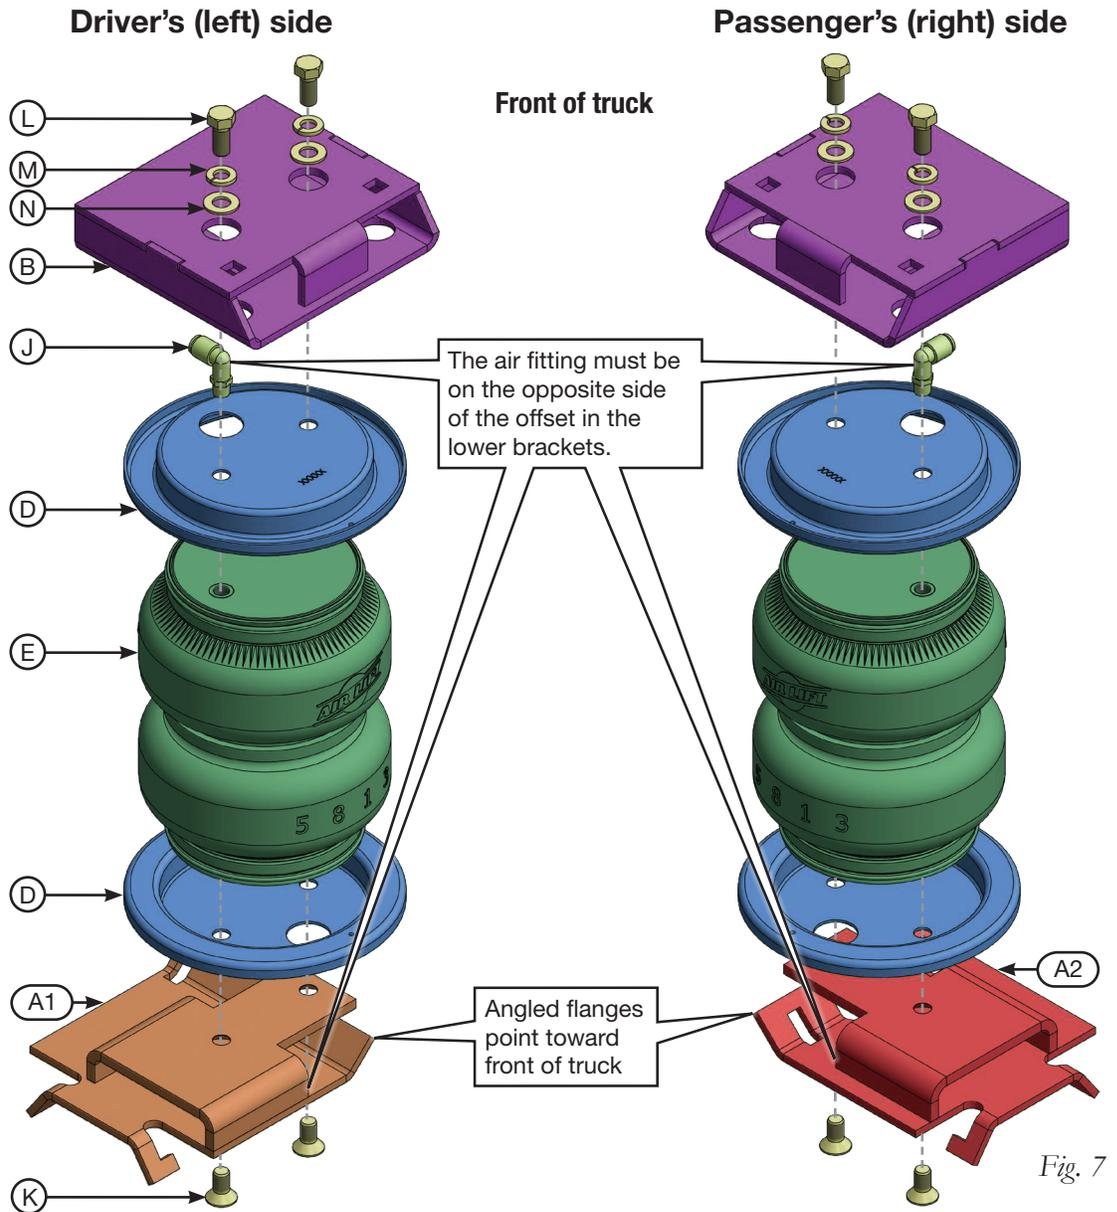

Fig. 7
1. Place the roll plates (D) on the air springs (E) (Fig. 7). Install the elbow swivel air fittings (J) on the air springs. Tighten the air fittings finger-tight plus 1 1/2 turns.
2. Attach the upper brackets (B) and roll plates with 3/8"-24 x 7/8" hex cap screws (L), 3/8" split lock washers (M) and 3/8" flat washers (N). Leave loose at this time.
3. Attach the roll plate, left-hand lower bracket (A1) and right-hand lower bracket (A2) with 3/8"-24 x 3/4" flat-head socket cap screws (K) and torque to no more than 20 lb.-ft. (27Nm). Note the orientation of the brackets in Fig. 7.